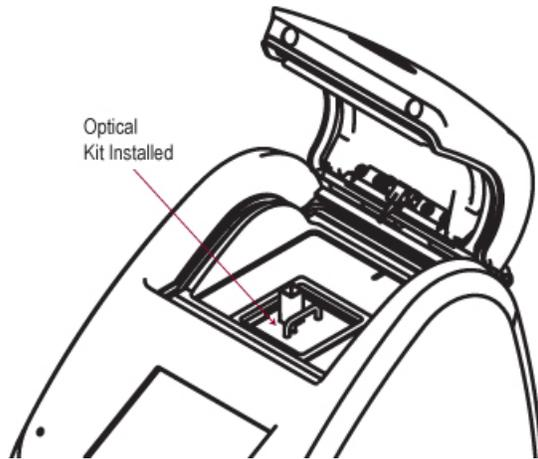

Figure 5.
3. Press down firmly to lock the Optical Application Module in place. You should hear or feel a click indicating the module has snapped into place. (See Figure 5.)